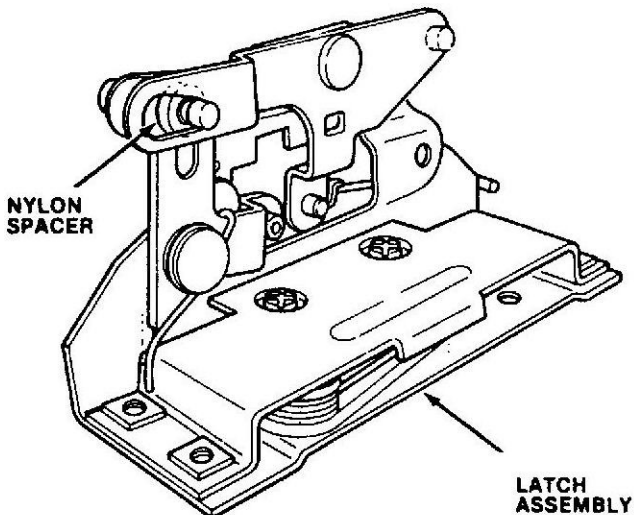

Fig. 1 — Latch Assembly Inspection
- a. Replace the latch assembly if damaged or if the nylon spacer between the lock and release levers, as shown in Figure 1, is damaged or missing.